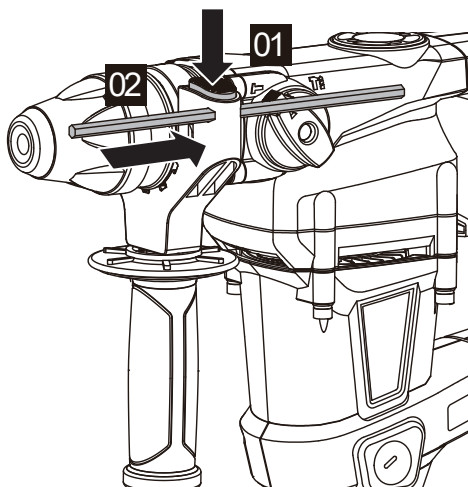

Figure 2
2. INSTALLING THE DEPTH GAUGE (SEE FIG. 2)